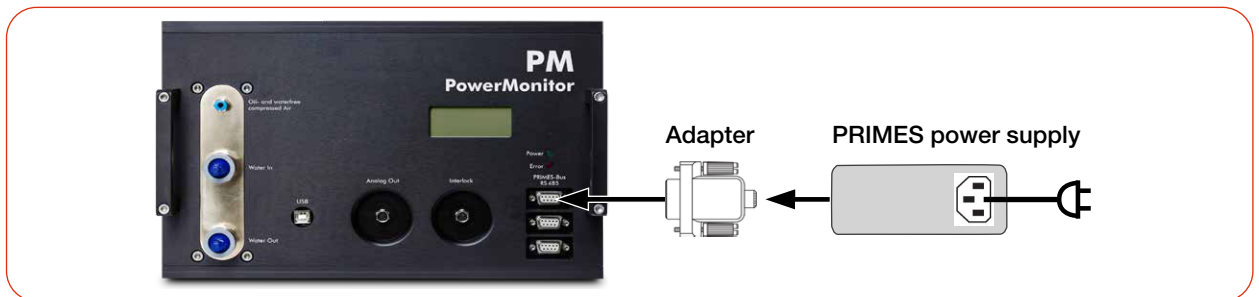

Fig. 8.3: Power supply via PRIMES power supply, display of the measured values on the device (using the PM 100 as example)
- Connect the PRIMES power supply with adapter according to Fig. 8.3 on page 27.